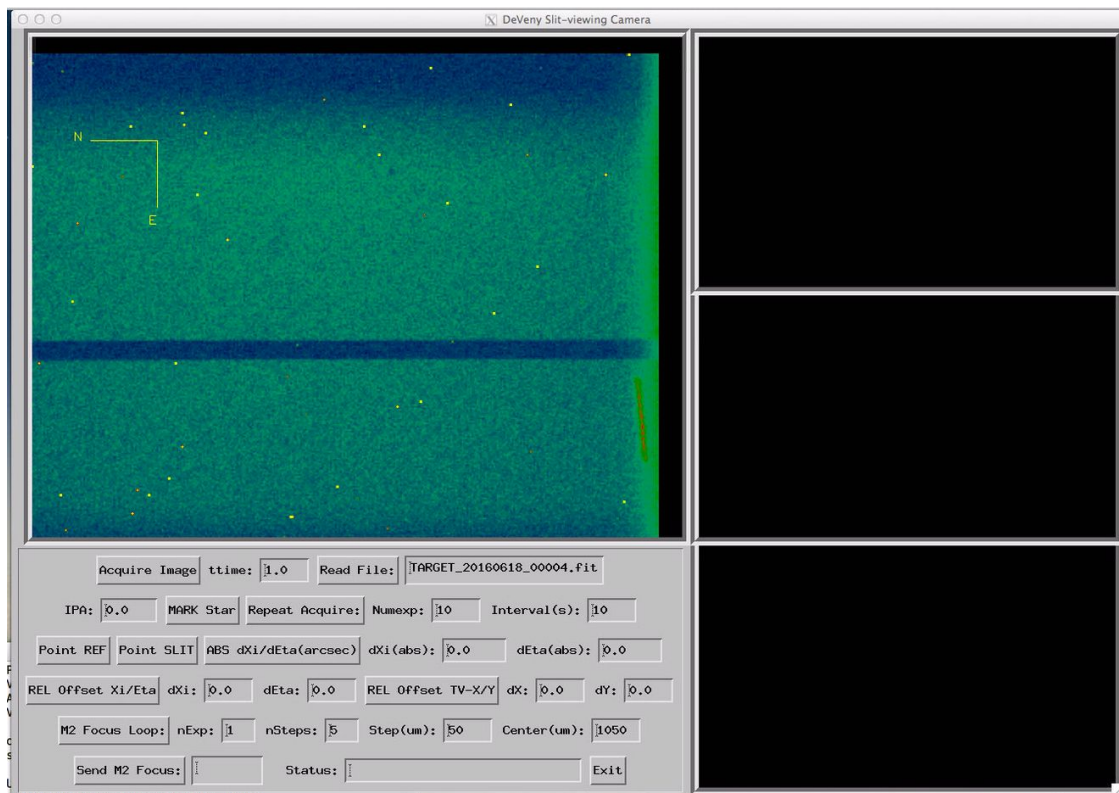

Figure 16. IDL *slitviewg* control GUI.
- b. At the IDL> prompt, type *slitviewg*. This launches the slit viewing camera top level control GUI (Figure 16).